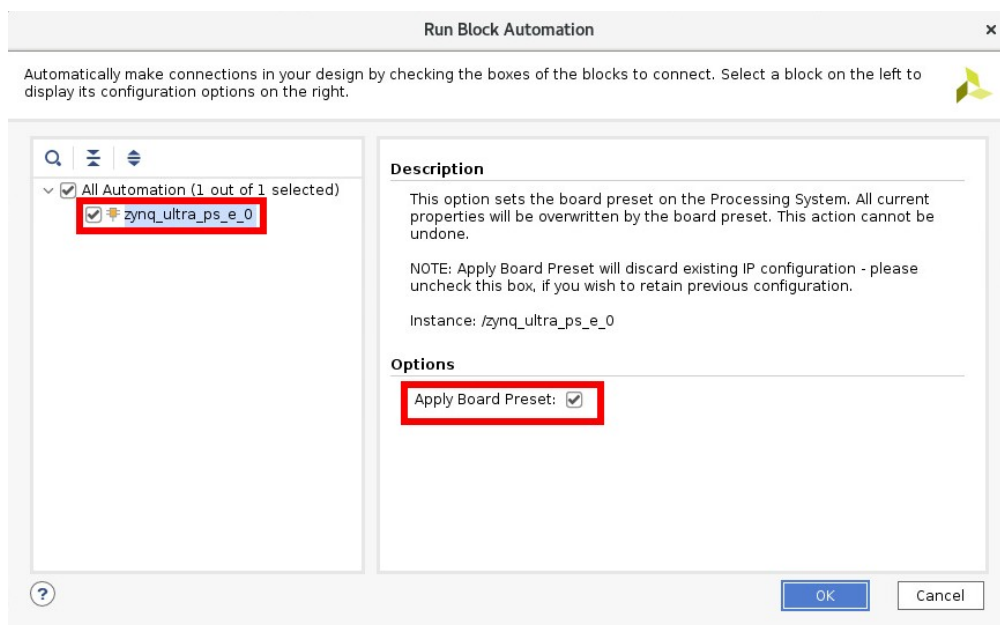

Figure 10: Applying Zynq preset.
- Select **zynq_ultra_ps_e_0** and **Apply Board Preset**, as shown in the Figure 10.